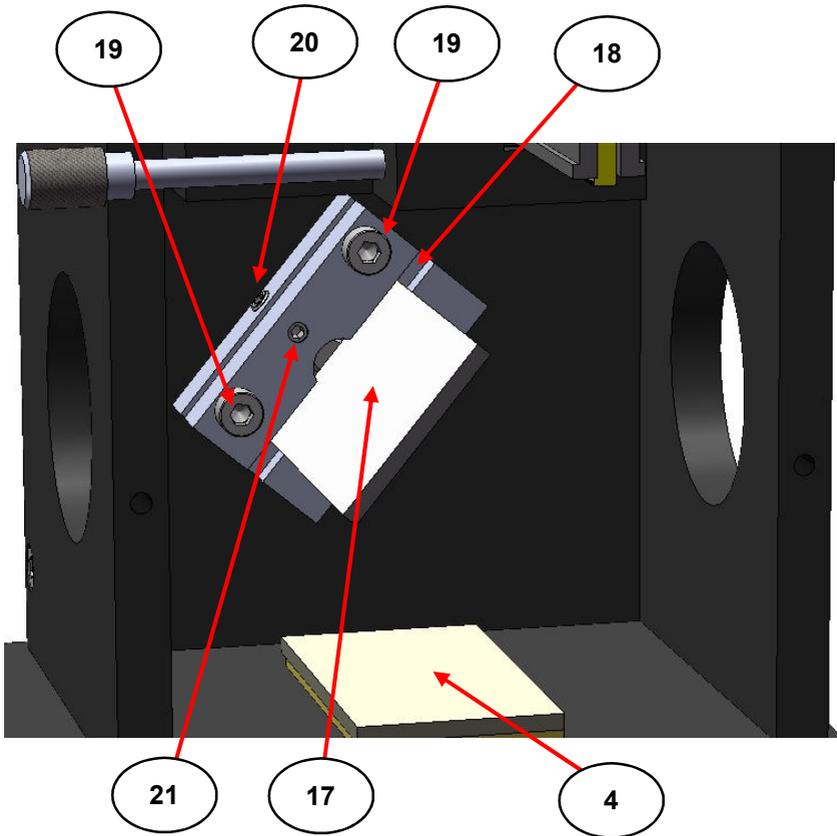

Fig 11. Minidiff Plus Adjustable Mirror Assembly Detail
Fig 11 shows a detailed close up of the mirror assembly (3) when the front metal cover plate (2) has been removed.